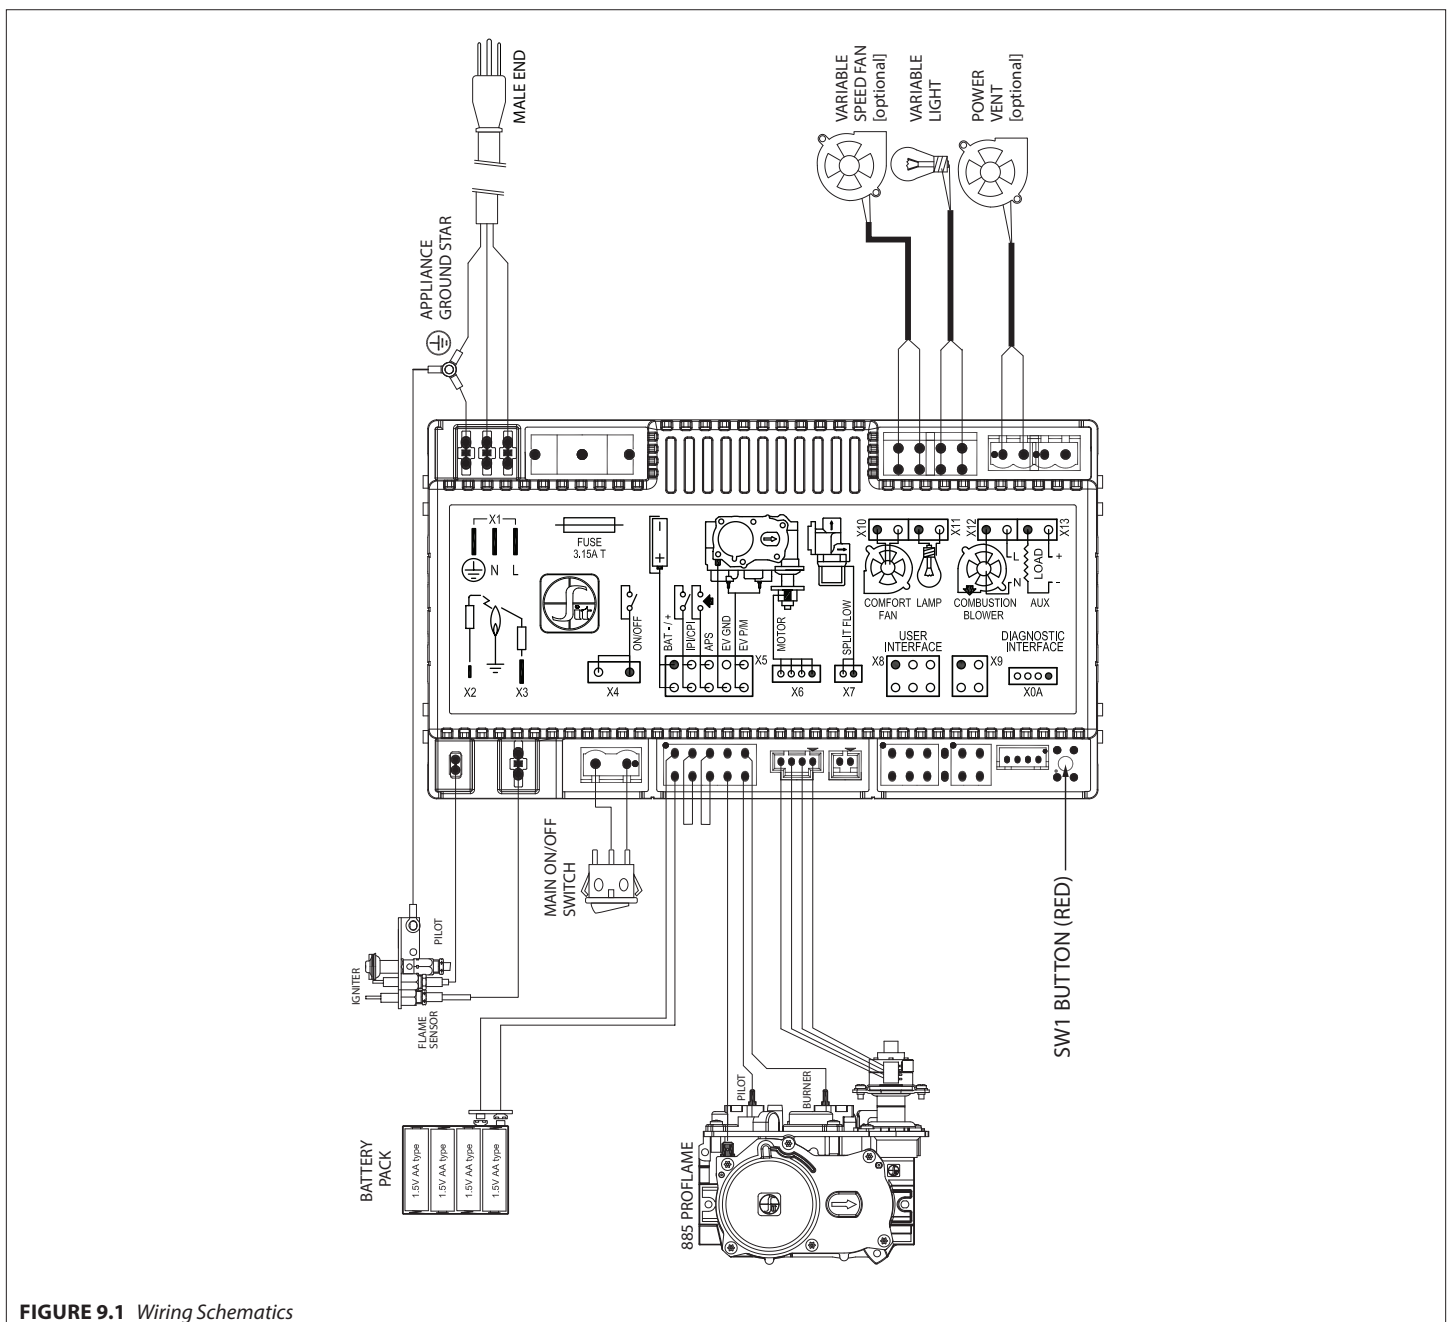

FIGURE 9.1 Wiring Schematics
9. Plug the fan cord into the receptacle on the IFC control module. See **FIGURE 9.1** on page 61.